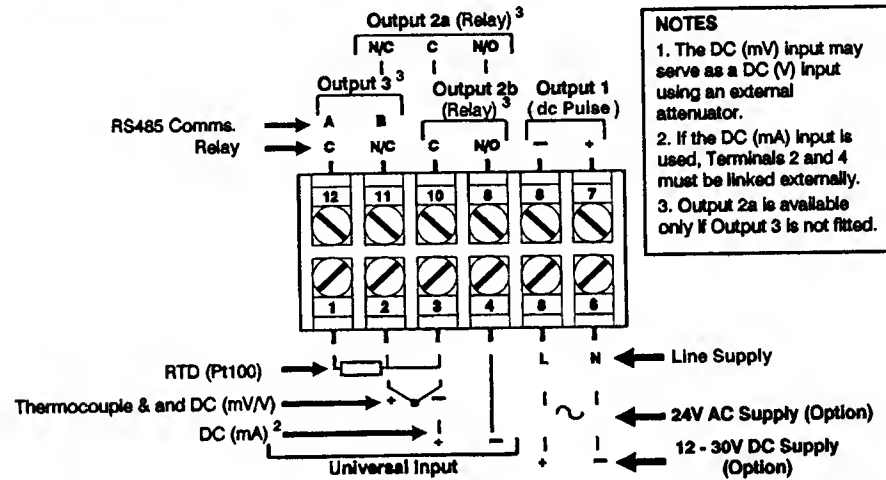

FIGURE 2-1 Rear Terminal Connections
DC (mV) inputs are connected to Terminals 2 and 3 in the polarity shown in Figure 2-1; DC (V) inputs are connected to the same terminals with the same polarity but require an external attenuator. DC (mA) inputs are connected to Terminals 3 and 4 in the polarity shown in Figure 2-1 with Terminals 2 and 4 linked externally.